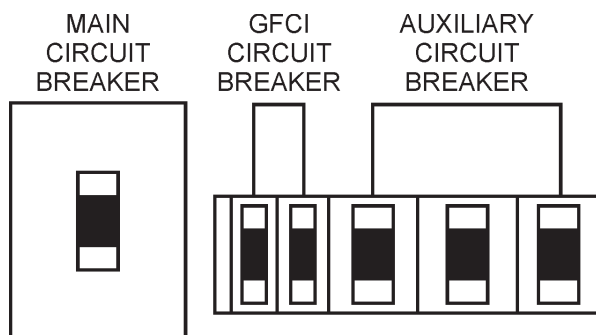

Figure 45. Main, Aux. and GFCI Circuit Breakers (OFF)
1. Place the **main, G.F.C.I.** and **aux.** circuit breakers (Figure 45) in the **"OFF"** position prior to starting the engine.